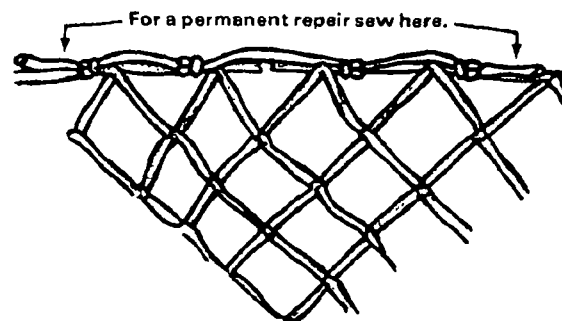

Figure F-1. Tying the Knot
Step 1 - Spread out net to find the damaged area of the border cord. Tie the knot shown in Figure F-1 on the good side of the mesh just past the damaged area.
Step 6 - Now that both knots are tight, sew the two free ends as shown in Figure F-1, Step 6.